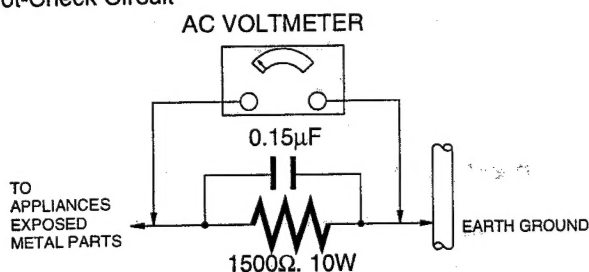

Figure 1
## LEAKAGE CURRENT HOT CHECK (See figure 1.)
- Connect a 1.5K ohm, 10 watts resistor, in parallel with a 0.15 microfarad capacitor, between each exposed metallic part on the set and a good earth ground, as shown in figure 1.